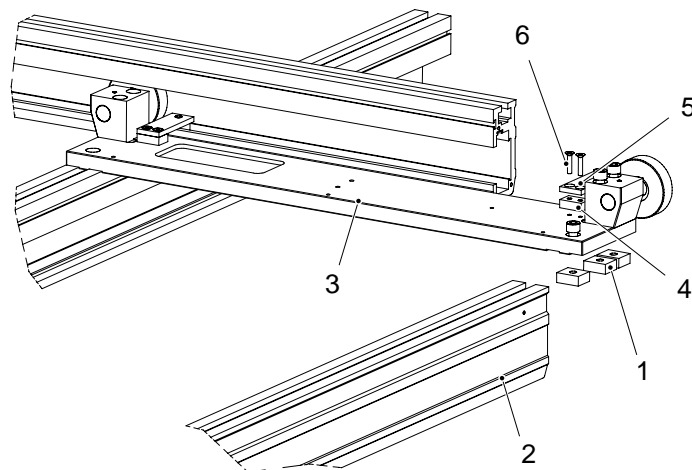

Fig. 4-15
- Install the side position bearings on the distance plates. See Fig. 4-15 .